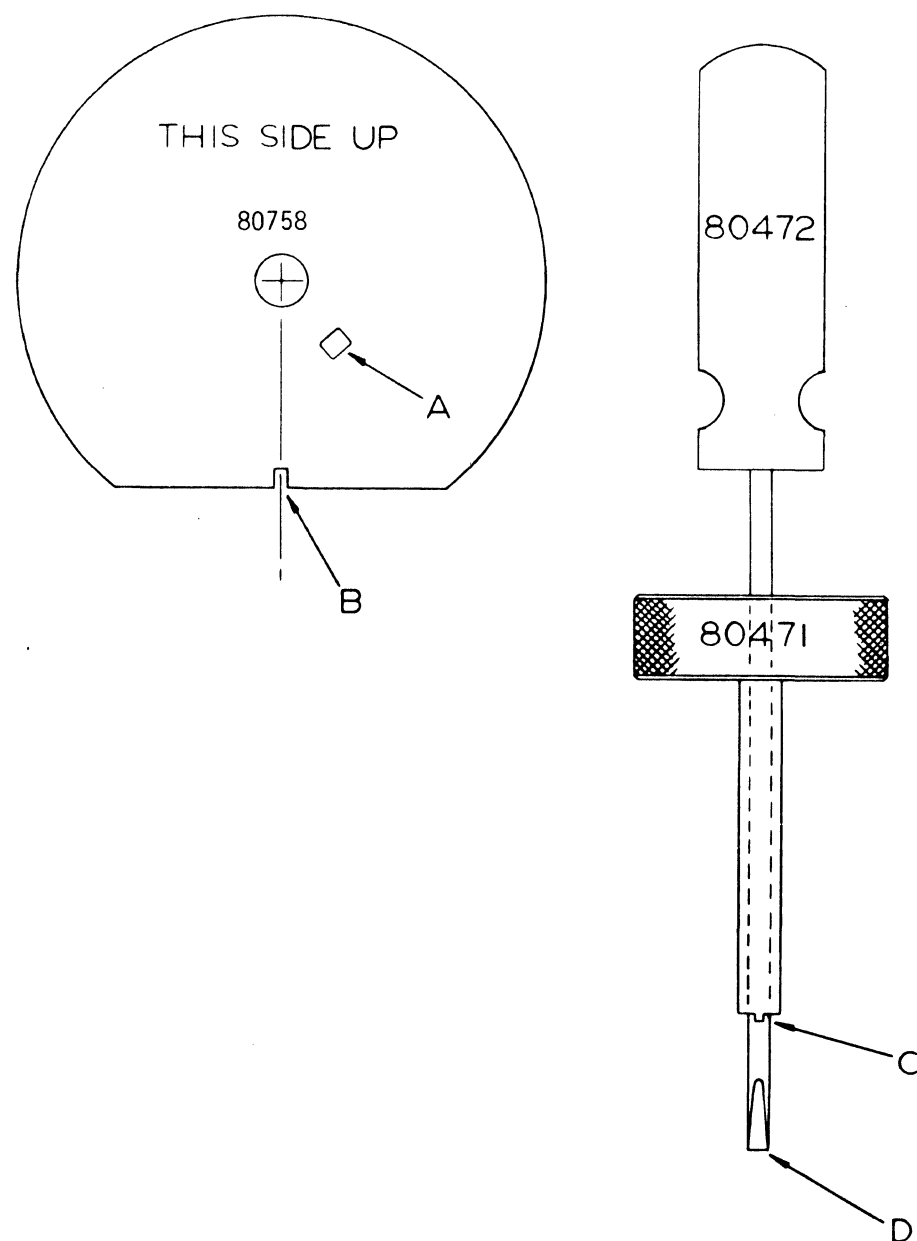
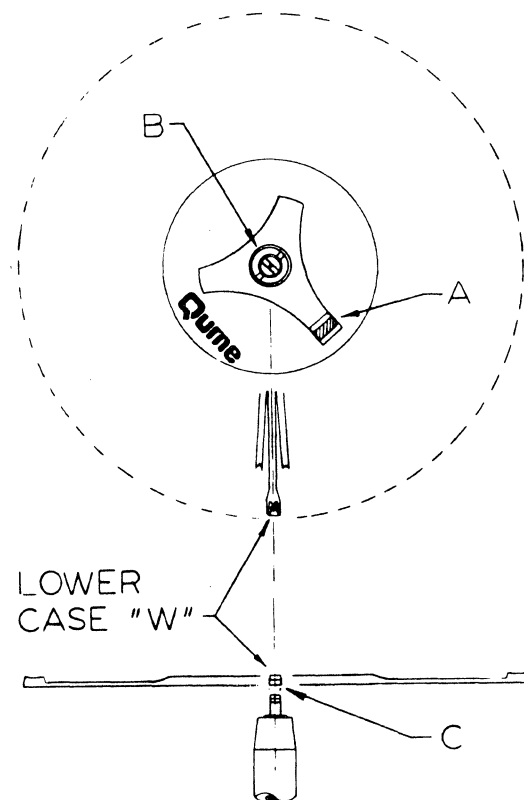

FIGURE 7-2
FIGURE 7-3
Adjustment may be performed with the top cover of the printer removed. This adjustment is preceded by the vertical alignment of the printhead, as described previously. Tools required include the printwheel alignment disc and a screwdriver. Refer to Figure 7-2.
These are illustrated in Figure 7-2.
- (1) Turn the printer on.
- (2) Release the carriage locking lever by depressing the "0" button, and tilt the carriage all the way back.
- (3) Remove the printwheel.
- (4) Refer to Figure 7-3. Use the hub collet adjusting tool to loosen the hub collet. Hold the armature shaft stationary with the screwdriver handle, and twist the knurled knob counterclockwise slightly to loosen the hub collet.
- (6) Mount the alignment disc on the printwheel hub, so that the imprinted legend "THIS SIDE UP" is visible to the serviceman making the adjustment.
- (7) Wedge a folded bit of paper between the printhead's armature and the spring-loaded printhead, so that the tip of the printhead is in an extended position.
- (8) Rotate the alignment disc, and the hub, (but NOT the motor's shaft), until the extended tip of the printhead engages the notch that is cut in the flattened edge of the disc (see Figure 7-2).
- (9) Now use the collet adjusting tool to re-tighten the collet, taking care not to disturb the motor's angular position. Hold the armature stationary with the screwdriver and turn the knurled knob clockwise to secure the adjustment.
- (10) Remove the alignment disc, and the paper wedge, and re-install the printwheel.
- (11) Once again, use a test lead to ground pin #28 of the interface connector.
- (12) Verify that the lower case "w" is in the 12 o'clock printwheel position.
- (13) Move the printhead slug forward by hand, and ensure that the tip of the slug meets the uppermost spoke squarely. Re-adjust the hub slightly, if necessary. Refer to Figure 7-3.
- (14) Return the printwheel carriage to its operating position, and press the "C" button to lock it in place. This completes the hub adjustment.